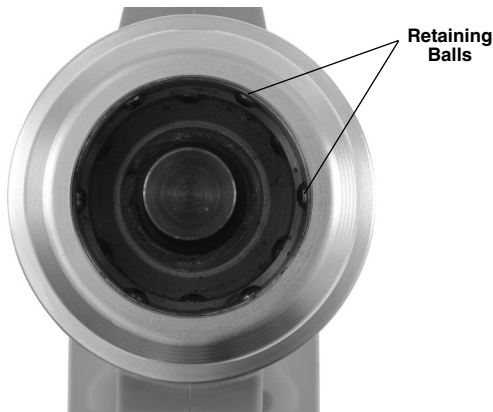

Figure 7 – Inside of QCS Coupling
Yellow	Indicates service interval approaching. Starts 2,000 cycles prior to service interval (see Figure 7). Tool is usable, but tool will lock after service interval.
- Confirm that all retaining balls are present in all openings and that there is no damage. *Figure 7* shows the inside of a complete and clean QCS coupling.
Point the QCS opening down and gently shake any debris out. Visually inspect the QCS opening for any debris. Cotton swabs can be used to wipe out debris. Do not let material build up into the retaining ball pockets (*Figure 7*). The QCS coupling is lubricated for life at the factory. Do not add any lubricant to the QCS coupling,